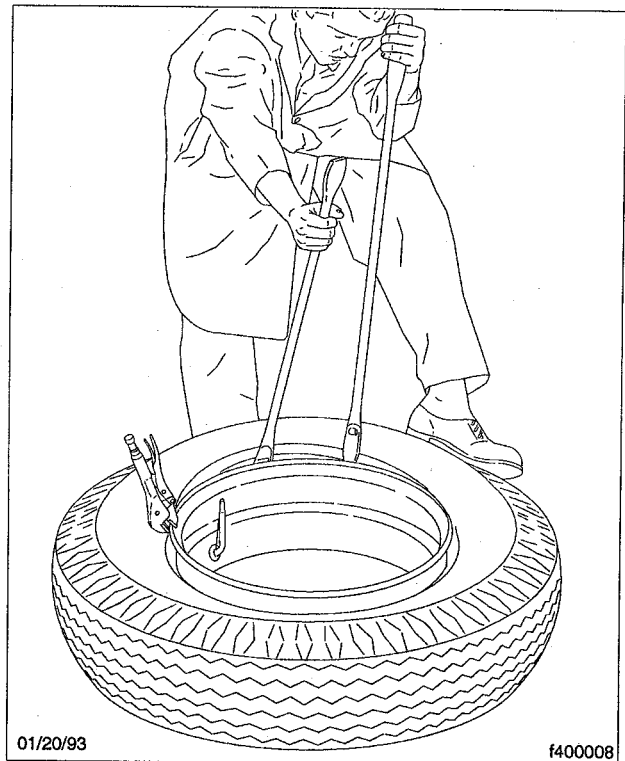

Fig. 7, Using a Second Tire Iron
- 6.4 Start the upper bead over the rim flange and into the rim well by standing on the tire. If necessary, push a section of the bead into the rim well, and anchor it by attaching Vise-Grip® pliers to the rim flange (snub side toward the tire). Using the spoon end of the tire iron, with the stop toward the rim, work around the bead. See Fig. 7. Proceed in small increments until the bead slips over the flange and into the rim well. If necessary, insert a second tire iron and relubricate the last 8 inches (20 cm) of bead.